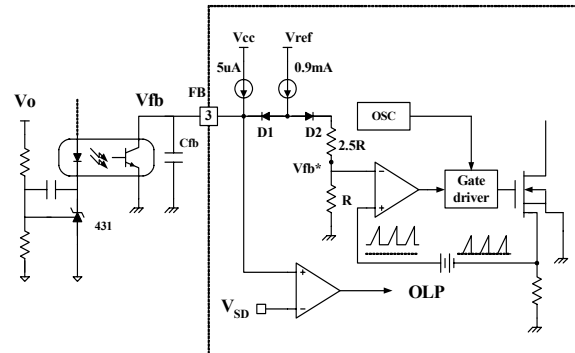

Figure 5. Pulse width modulation (PWM) circuit
**2. Feedback Control :** The FSDx0265RN employs current mode control, shown in figure 5. An opto-coupler (such as the H11A817A) and shunt regulator (such as the KA431) are typically used to implement the feedback network. Comparing the feedback voltage with the voltage across the Rsense resistor plus an offset voltage makes it possible to control the switching duty cycle. When the reference pin voltage of the KA431 exceeds the internal reference voltage of 2.5V, the H11A817A LED current increases, thus pulling down the feedback voltage and reducing the duty cycle. This event typically happens when the input voltage is increased or the output load is decreased.